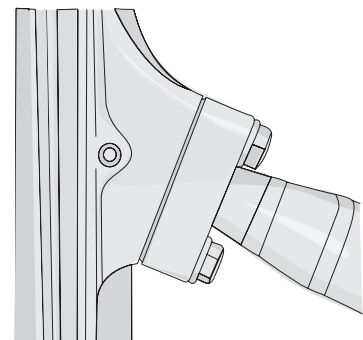

Figure 4-2
3. 1 place of the support rod (Figure 4-2) 3 places of straight tilt blade, and 2 places of angle blade